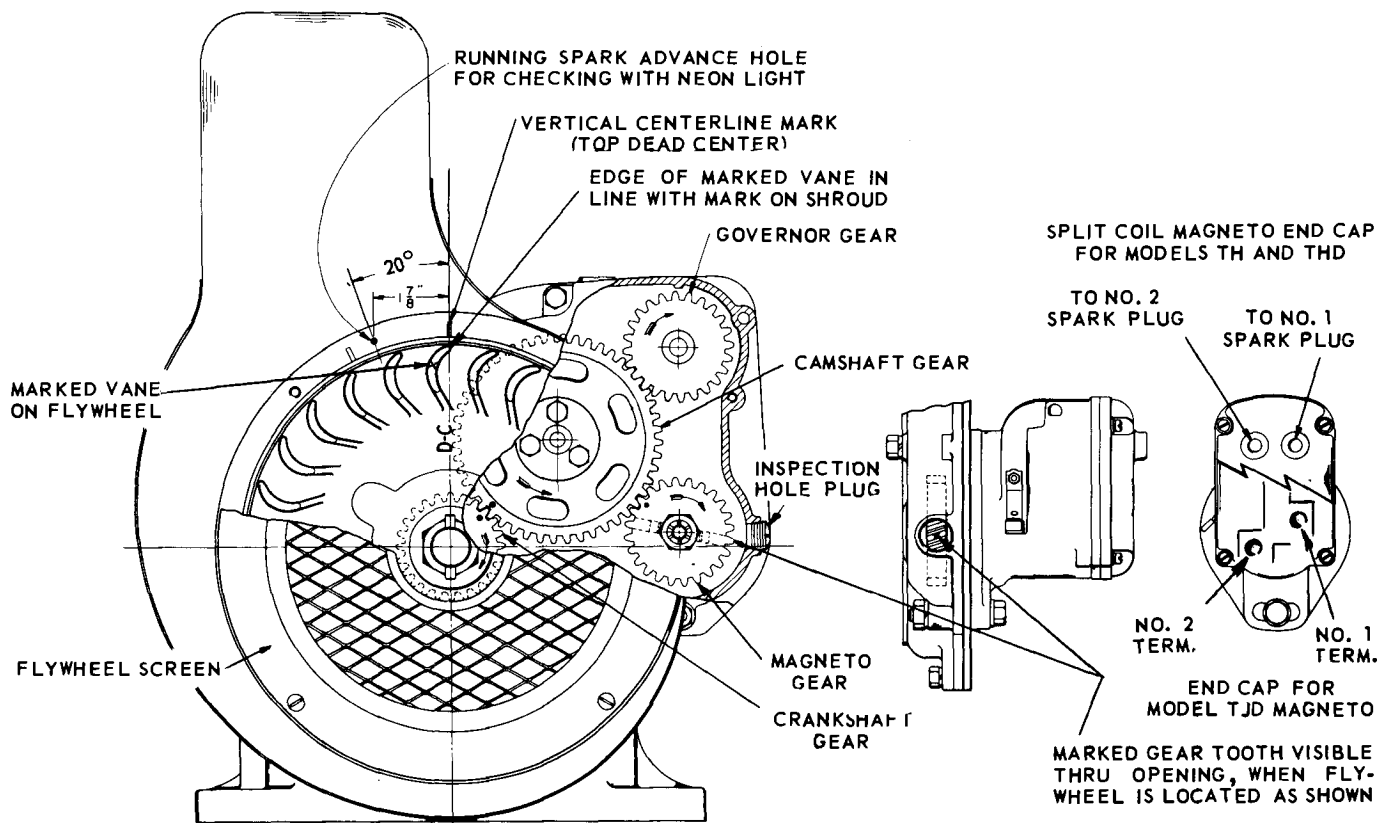

Fig. 12, MAGNETO TIMING DIAGRAM
MAGNETO TIMING (Fig. 12)
Drive gear replacement on Models TJD and W2-880 requires the gear to be positioned on the drive lugs of the magneto so that when No. 1 terminal fires, the 'X' marked gear tooth is visible through the timing hole, while flywheel is positioned as illustrated in Fig. 12. Refer to Magneto Service Instruction in this manual for further information on gear mounting.
3. Continue cranking until the leading edge of the *X marked vane* and *DC* letters on flywheel are in line with the *vertical centerline* mark on shroud, as shown on Timing Diagram, *Fig. 12*. Leave flywheel in this position, as the No. 1 piston is now on top dead center.
6. Mount magneto to the engine, meshing the gears so that when magneto is in place, the gear tooth marked with an 'X' will be visible in the *center* of the *inspection hole* in gear cover. See *Magneto Timing Diagram, Fig. 12*. Tighten mounting screws and be sure flange gasket is in place.
magneto end cap is the tower toward the engine. See Fig. 12.